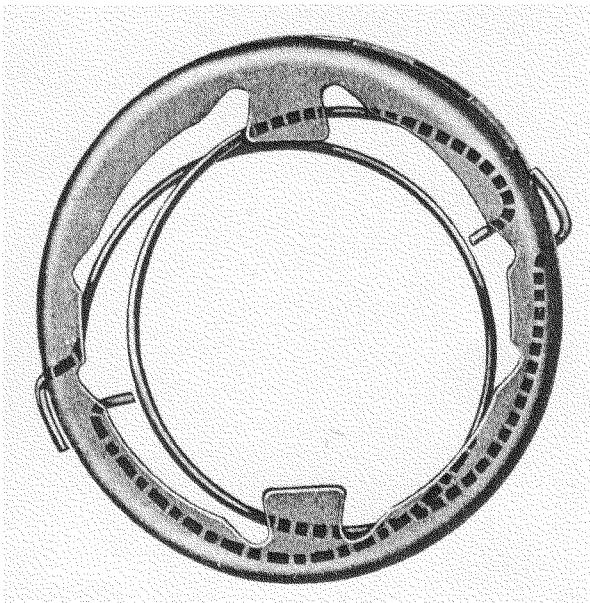

Fig. 42—Installation of Cam Roller Retaining Springs
- When installing springs be sure both springs are coiled in the same direction (clockwise when looking toward flanged end of retainer), with "S" end of springs hooked into holes in retainer (fig. 42) and opposite ends hooked into holes in cam.
- If free wheeling cam and roller retainer were separated, assemble these parts by positioning springs so both are coiled clockwise when looking at flanged end of retainer (fig. 42), then place retainer over slotted end of cam, hook free ends of springs in holes in cam, turn retainer clockwise and push springs into place around cam.